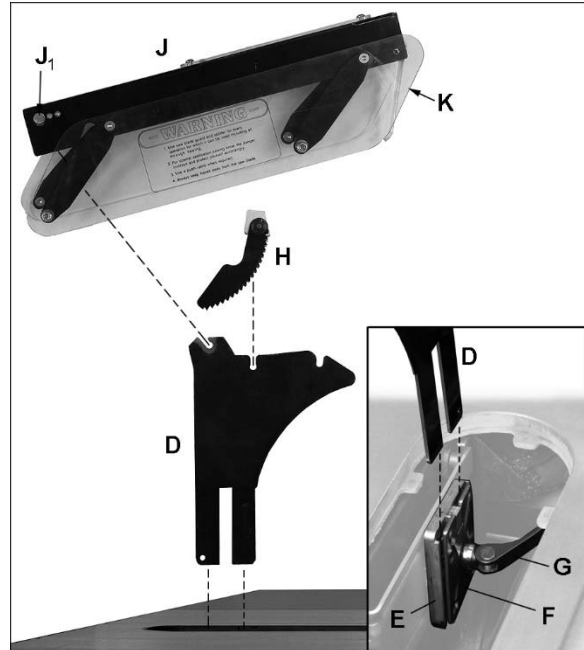

Figure 12
Refer to Figure 12.
3. Pull quick-release lever (G, Figure 12) to open position. The clamp plate (F) is spring loaded and will move away from the bracket (E), leaving a gap.
4. Slide prongs of riving knife (D) into slot between bracket (E, Figure 12) and clamp plate (F), and push riving knife down as far as it will go.
5. Push lever (G) to closed position.
Refer to *Figure 12*.
2. Position anti-kickback pawl assembly (H) as shown in *Figure 12*; the angled side of pawl block faces toward front of saw.
3. Lower pawl assembly onto center notch of riving knife, with pawls straddling knife. Push and hold button on pawl block (on opposite side of that shown in *Figure 12*), and push pawl block down until it securely engages in notch.
The bracket and clamp plate (E/F, *Figure 12*) are adjusted at the factory and no further adjustment of the blade guard and riving knife assembly should be necessary. However, **proper alignment is very important**. Before operating table saw, read *section 9.6 ,Riving knife alignment*, to verify and follow adjustment procedure if necessary.